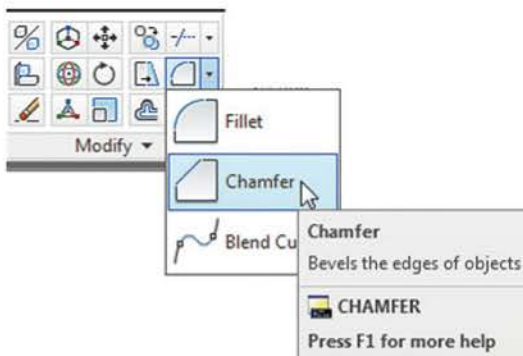

Fig. 6.39 Select Chamfer from the Home/Modify panel
2. Call **Chamfer** – *click* the arrow to the right of the tool icon in the **Home/Modify** panel and select **Chamfer** from the menu that appears (Fig. 6.39), *pick* **Chamfer** from the **Modify** drop-down menu, or *enter cha* or *chamfer* at the keyboard. The command sequence shows: